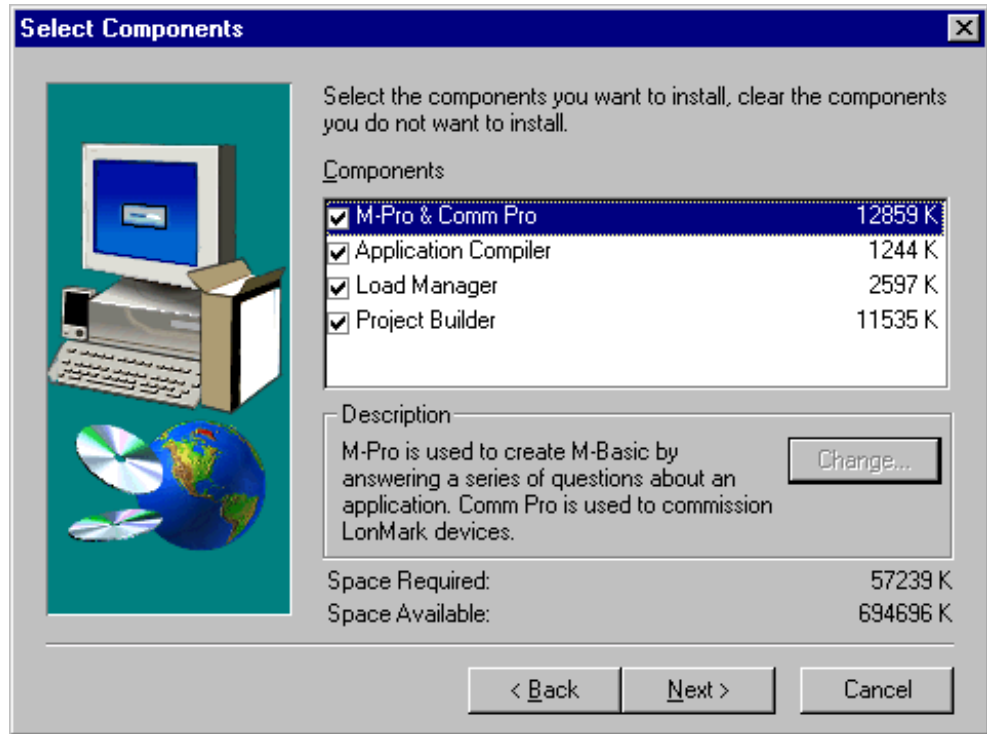

Figure 8: Select Components Dialog Box
14. If you chose Install System Tools 5.0, click Next and go to Step 19 or, if you chose Select from list of components, click Next and go to Step 15. The Select Components dialog box appears (Figure 8).